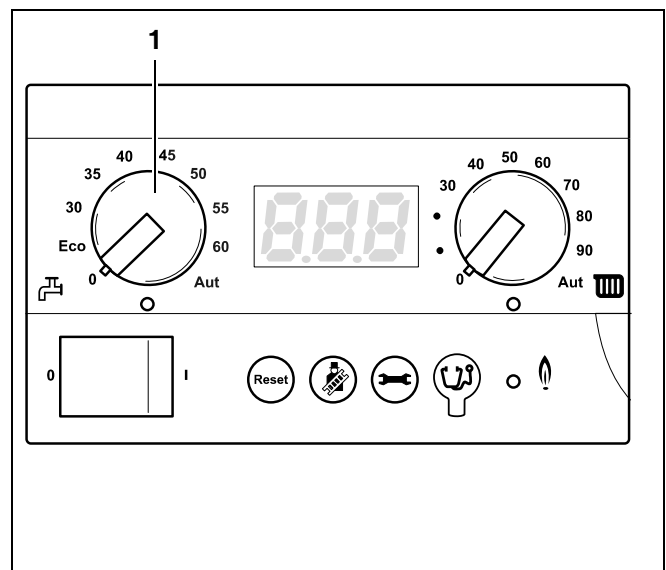

fig. 17 BC10 basic controller
- Set the DHW temperature dial (fig. 17, **item 1**) to the required temperature of the hot water in the hot water cylinder (→ table 4).